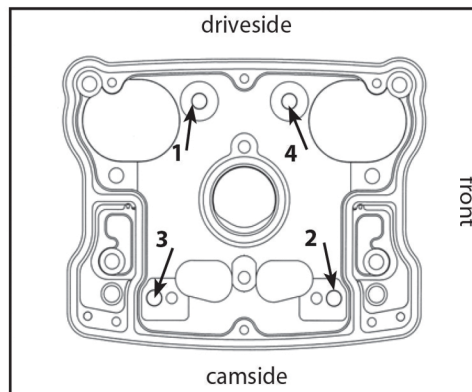

Figure 1
2. Gradually loosen rocker arm support bolts in sequence shown. **See Figure 1.** Loosen rocker support bolts in ¼-turn increments for first ¾ turn, then remove.